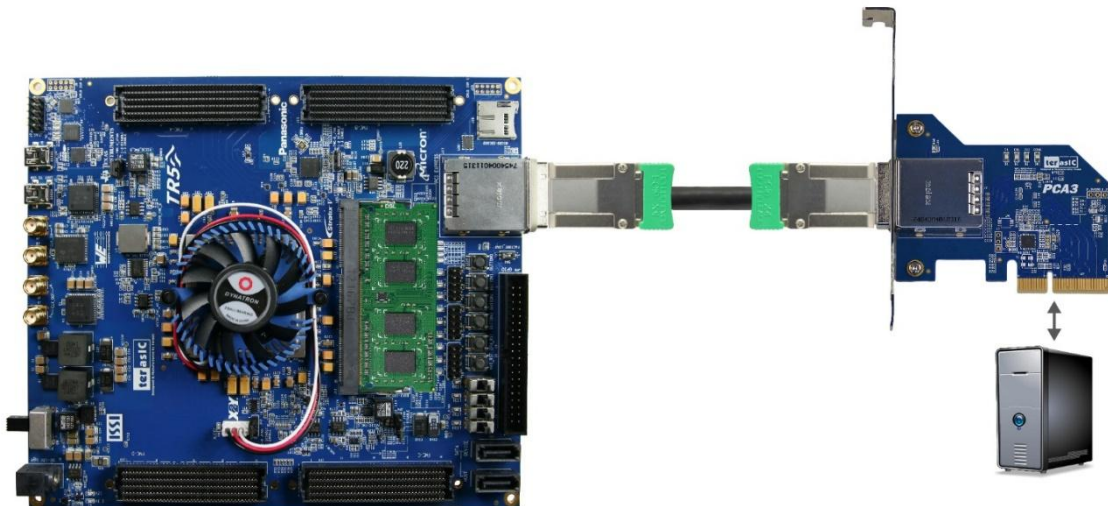

Figure 7-3 FPGA board connect to PC
2. Plug the PCIe adapter card into the PCIe slot on the PC motherboard. Use the PCIe cable to connect to the TR5 PCIE connector and the PCIe adapter card (See Figure 7-3)